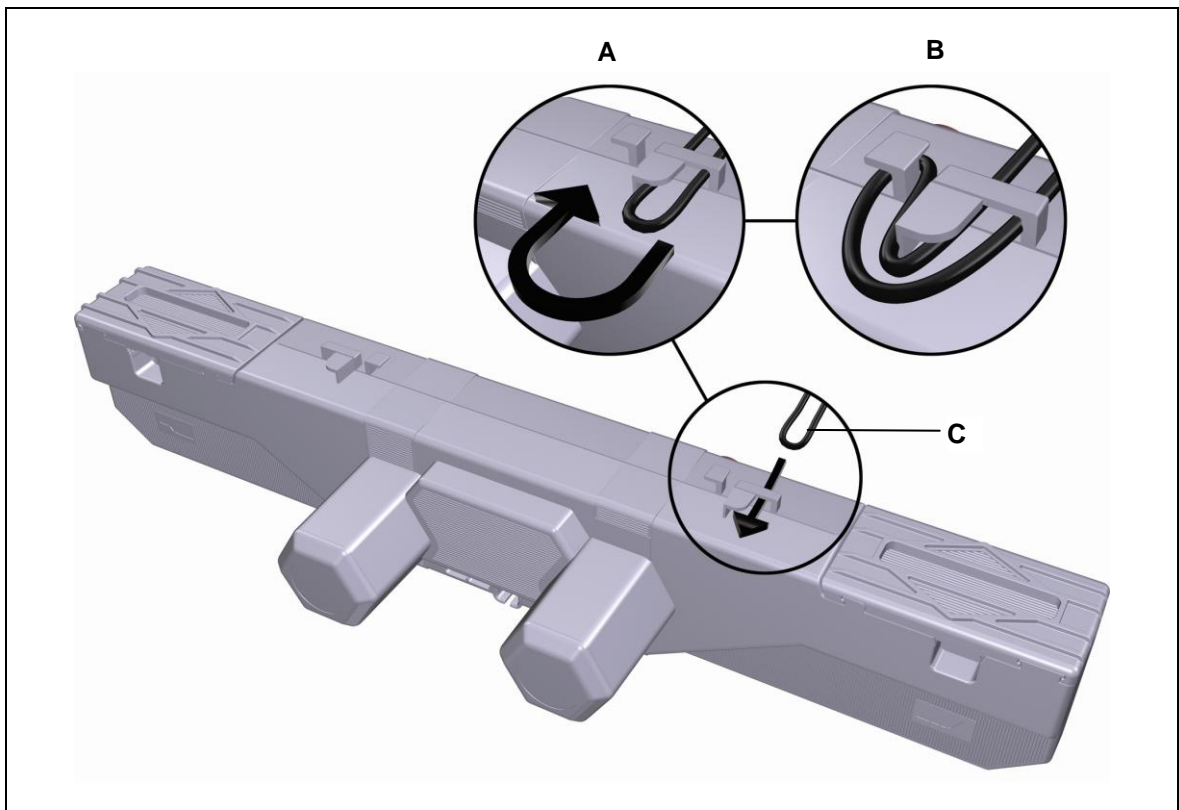

Figure 8 Looping the cable through the strain relief mechanism
- 2 Loop the handset cable through the strain relief catch and pull back gently on the loop as illustrated in Figure 8.